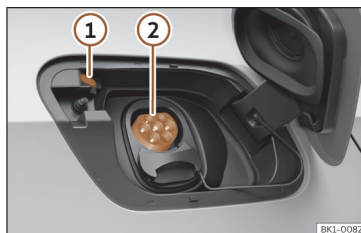

Fig. 56 Behind the battery charging cover on the rear right-hand side: Charging socket
>>> Fig. 56
- The LED (charging process indicator) of the charging socket ① flashes or flashes white >>> Fig. 56 , >>> page 77.